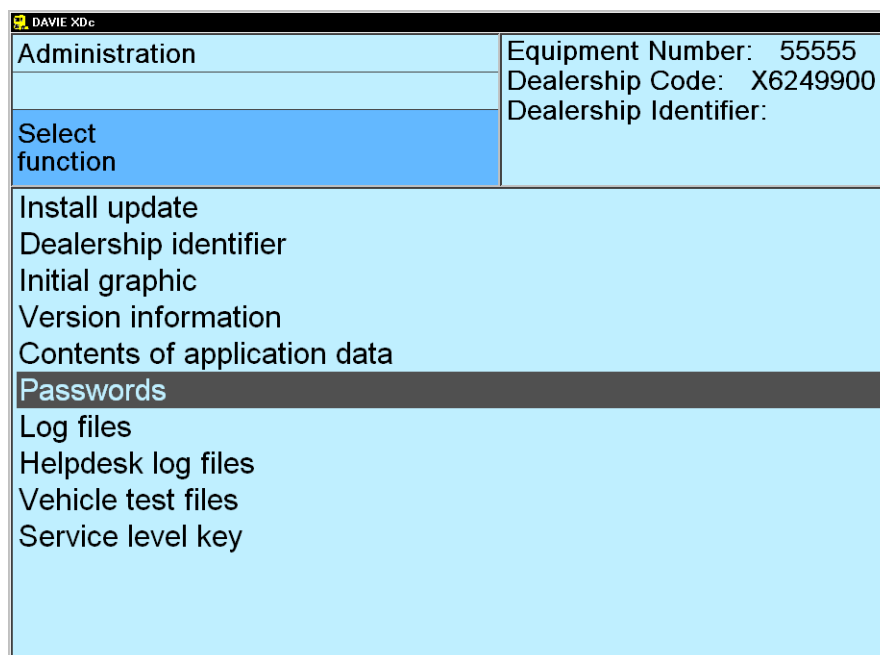

Figure 4-6 Administration screen: select function "Passwords"
8. Select "Passwords" (see Figure 4-6).